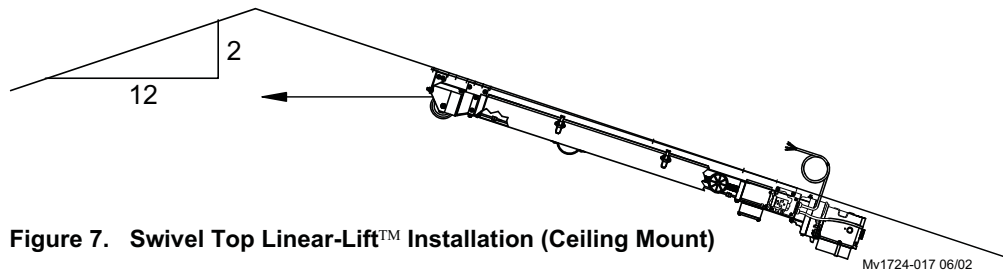

Figure 7. Swivel Top Linear-Lift™ Installation (Ceiling Mount)
The Swivel Top Linear-Lift™ is designed to be mounted on any ceiling where the slope of the ceiling is 2:12 or steeper (**See Figure 7 below**). This allows the cable to be routed off the end of the unit for systems where whole house control of both sides of the house with one unit is needed. Use (8) 3/8" Lag Screws, (included in Hardware Package), to attach the unit to the ceiling.